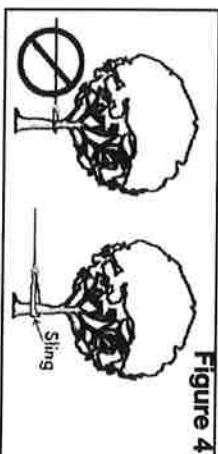

Figure 4
10. NEVER HOOK THE WIRE ROPE BACK ONTO ITSELF. This could damage the wire rope. Use a nylon sling for this type connection. (Figure 4)